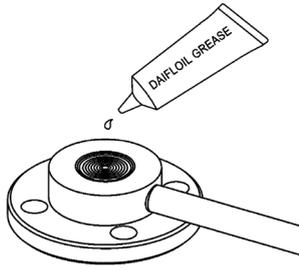

Figure 2-13. Grease Application
- (1) Hold the diaphragm surface of the pressure-receiving part of the transmitter such that it faces upward.
- (2) Apply about 10 g of Daiflon grease (about one-fourth of a tube) to the diaphragm surface and the surfaces around the flange gasket, and spread it evenly on the gasket surface with your finger so that it reaches a thickness of about 0.5 mm (Figure 2-13). Also be careful of the following during attachment.